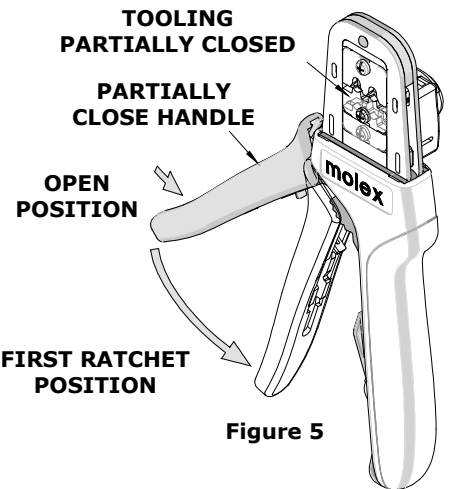

Figure 5
5. Close the tool handle until the first ratchet position engages. See Figure 5.